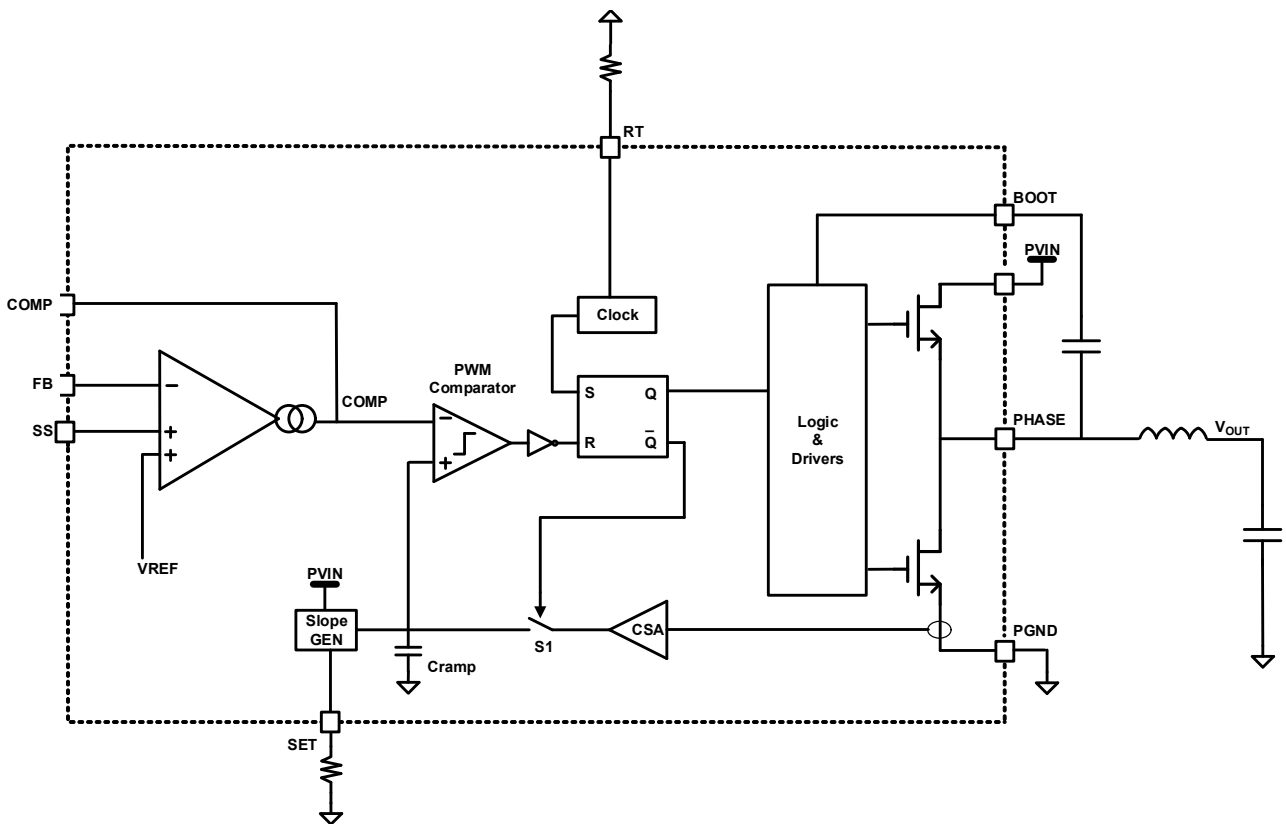

Figure 51. PWM Fixed Frequency Functional Block Diagram
Figure 51 shows the functional block diagram for RAA211650. The output voltage is sensed by a resistor divider from  $V_{OUT}$  to the FB pin. An internal transconductance error amplifier (EA) compares FB voltage with the internal 0.8V reference voltage and produces an amplified compensated signal COMP to minimize the error in  $V_{OUT}$ . The EA has internal compensation, which provides stable operation across the device operating range. EA uses internal compensation when COMP is connected to AVCC. An external RC network can be between the COMP pin and AGND to use external compensation. The COMP signal is compared with the sum of sensed low-side current and the slope compensation generator. At the rising edge of the PWM clock, the high-side MOSFET turns on ramping up the inductor current. The high-side MOSFET is turned off when the sum of the sampled low-side current and compensation generator reaches the COMP signal level or when the maximum duty cycle is reached. When the high-side MOSFET is turned off, the inductor current starts to ramp down initially freewheeling through the low-side MOSFET body diode. After a small dead time, the low-side MOSFET is turned on and the inductor current shifts from the body diode to the low-side MOSFET channel. During each switching cycle when the high-side MOSFET is turned on, the inductor stores the energy, and it is delivered to load when it is turned off. The resistor  $R_T$  sets the switching frequency for the regulator.